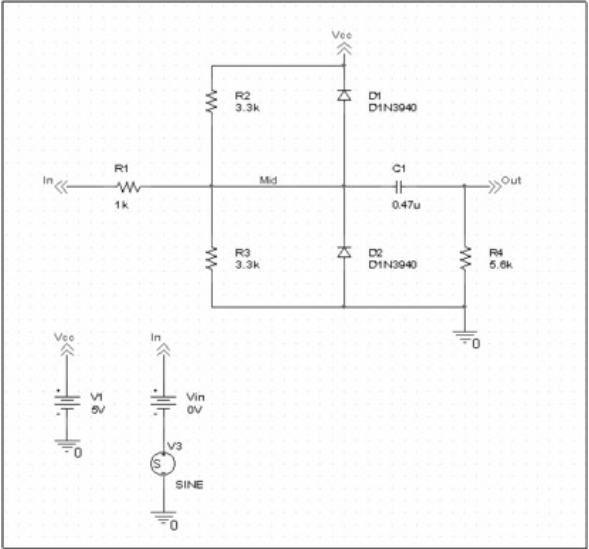

Figure 2-15 Diode clipper circuit with a voltage stimulus in .
The examples in this section show how to run a transient analysis on the clipper circuit. This requires adding a time-domain voltage stimulus as shown in Figure 2-15 and Figure 2-16.
5. Place a VSTIM part (from the PSpice library `SOURCESTM`) as shown in Figure 2-15.
7. Place the ground part under the VSTIM part as shown in Figure 2-15.
4. Place a VSTIM part (from the PSpice library `sourcestm`) as shown in Figure 2-15.